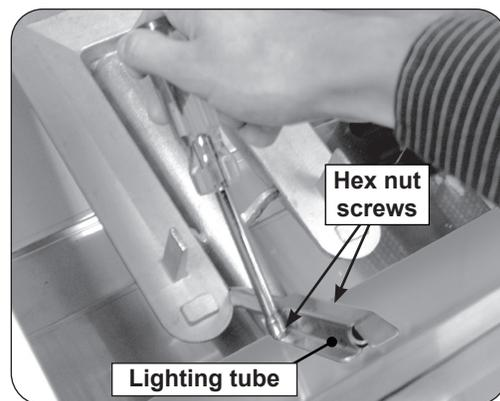

Fig. 1-1 Remove the lighting tube
4. Remove the lighting tube. Remove the two hex nut screws using a 1/4" hex nut driver, pull the tube directly away from the grill fire wall and off the mounting pin and igniter electrode (see Fig. 1-1).